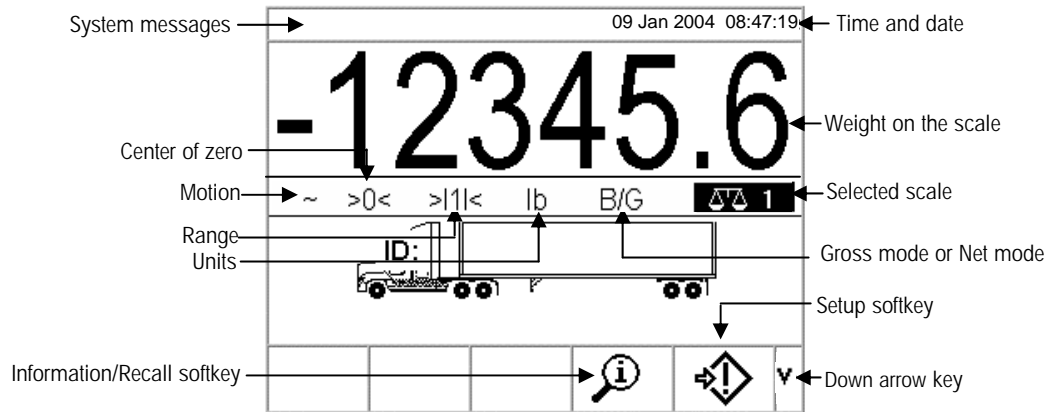
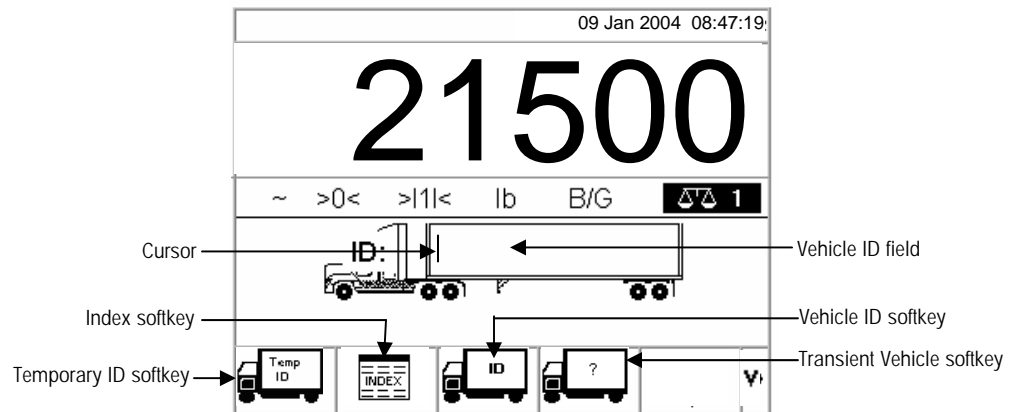

Figure 2-4: Default Weighing Operation Screen
Figure 2-5: Default Weight Screen
The default weighing operation screen displays when the application is idle (see Figure 2-4).
1. From the default weight screen (Figure 2-4), press the DOWN arrow key to display all available softkeys (see Figure 2-5).
1. Once the vehicle is on the scale, press the TEMPORARY ID softkey (see Figure 2-5). A vehicle ID prompt displays with a cursor in the ID field. The softkeys and application keys become alpha keys (see Figure 2-3).